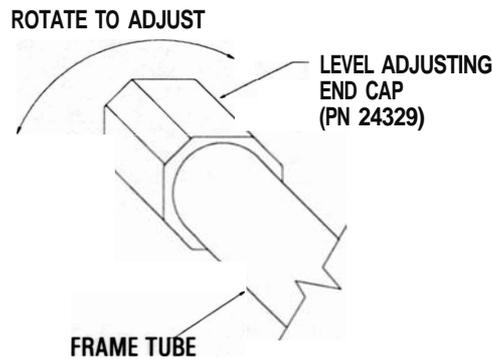

Figure 5: Level Adjusting End Caps
1. Make sure the machine is level before you use it for the first time. The rubber end caps (see Figure 5) are designed to compensate for uneven floors. Each face of the caps is a different thickness. Twist the caps to stabilize the machine.